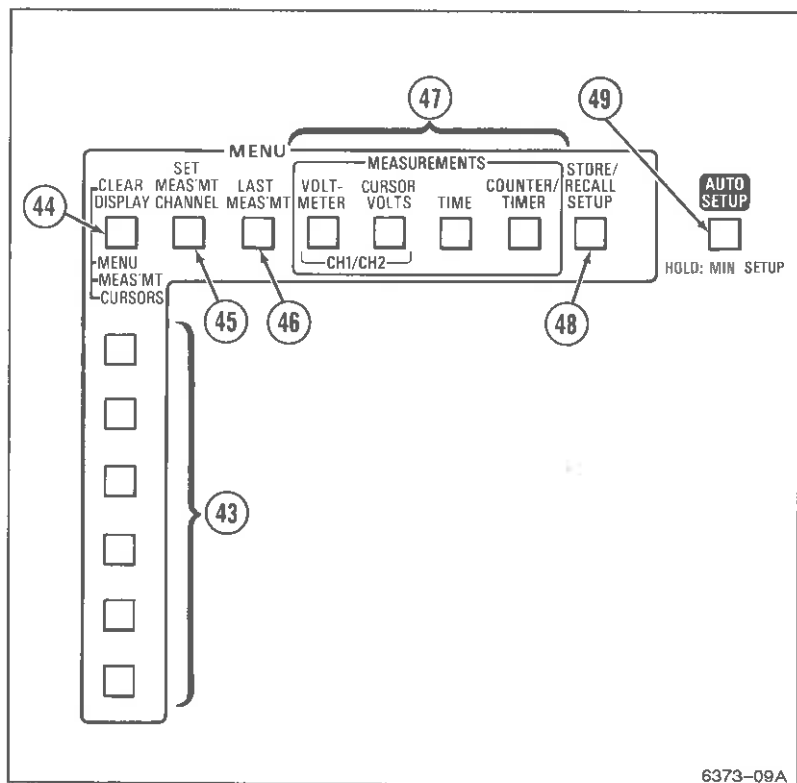

Figure 2-7. Menu controls.
Refer to Figure 2-7 for location of items 43 through 49.
- ④3 **Menu Item Select Buttons**—Select items from the list displayed on the right side of a displayed menu. A Menu Item Select button that has no corresponding menu item does nothing when pressed. The menu display will clear when the item is selected (unless the SERVICE mode CONFIGURE menu is set for: KEEP MENU ON WHEN ITEM SELECTED? YES). The factory settings default is NO.